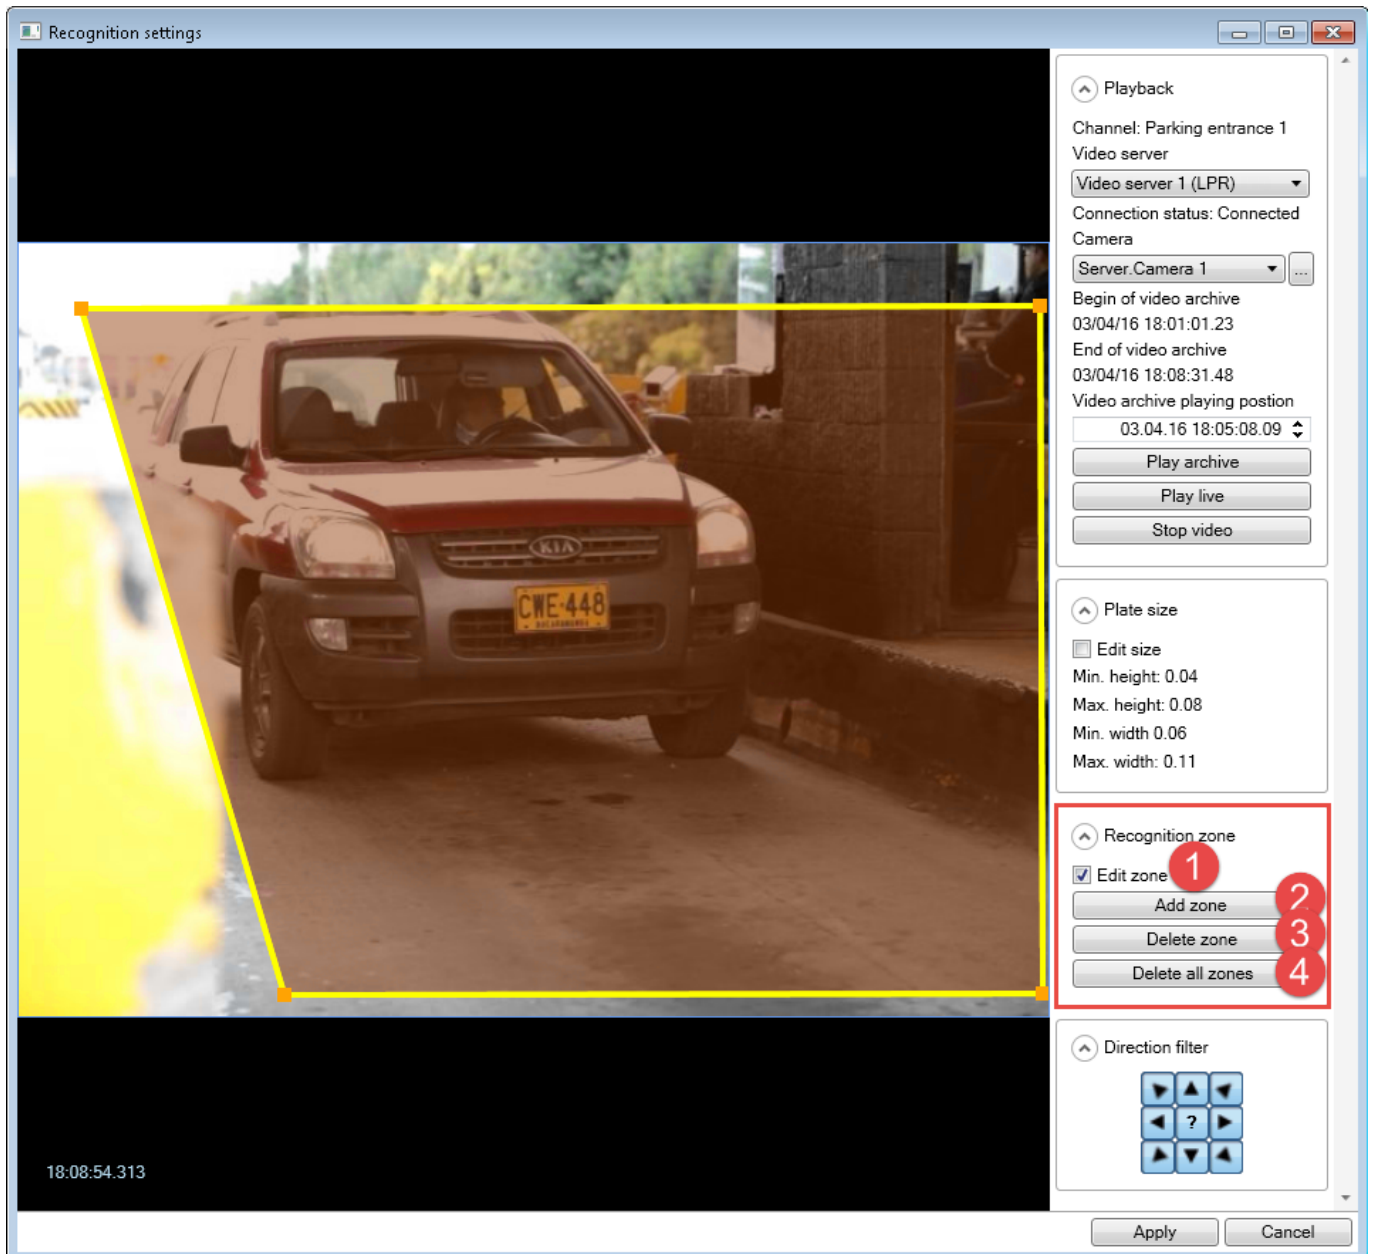

Figure 5: The process of creating a recognition zone
Recognition zone (Fig. 5, settings 1, 2, 3, 4) is an area in the frame that may contain a license plate. Each channel may have up to 20 recognition zones.
To *create* a recognition zone (Fig. 5):
- To *delete a recognition zone*, activate it and click the **Delete zone** button (Fig. 5, 3).
- To *delete all recognition zones*, click the **Delete all zones** button (Fig. 5, 4).